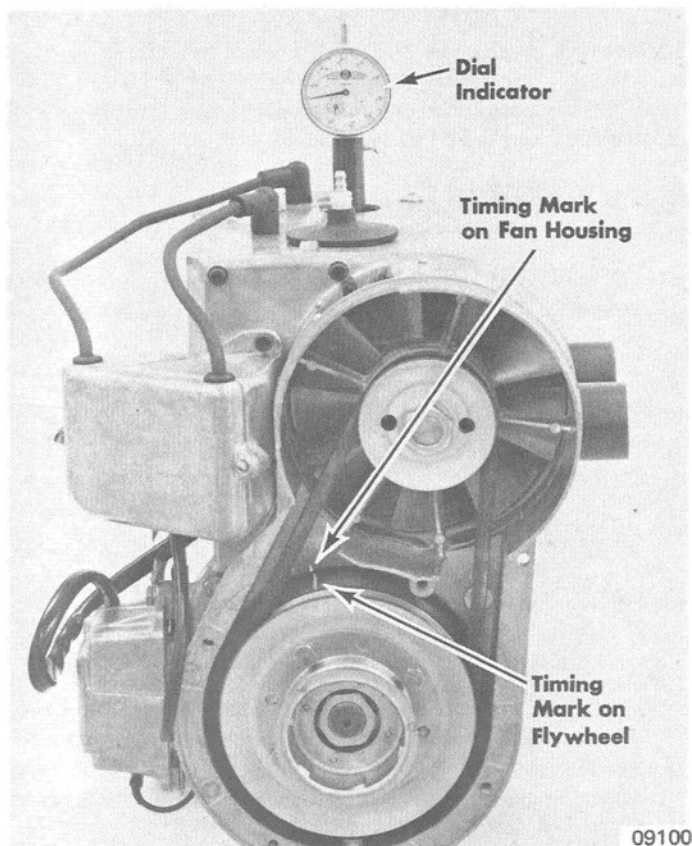

Figure 1. Dial Indicator Installed
3. Install Dial Indicator (C-91-58222A1) in No. 1 (PTO side) cylinder spark plug hole. (Figure 1)
5. Rotate drive sheave clockwise (viewed from PTO side) until dial indicator shows timing degree listed in specifications. (Refer to "Specifications" Section 8.) At this point, timing mark on flywheel should be aligned with timing mark on fan housing. (Figure 1) If timing marks are not aligned, place a new mark on fan housing directly opposite timing mark on flywheel.